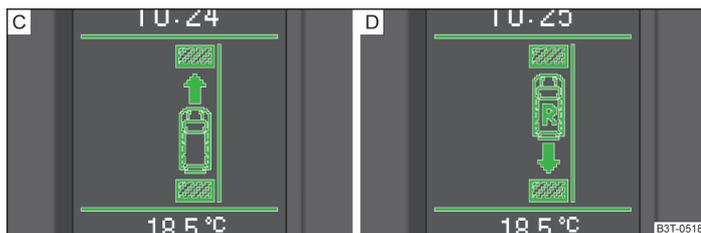

Fig. 104 Information display: Information to engage the forward gear **C** or the reverse gear **D**
- In the event that the parking procedure cannot be carried out in one go, the parking process is completed in further stages. When the arrow in the information display is flashing towards the front » Fig. 104 - **C**, engage the 1st gear or move the selector lever to position **D**.
- When the arrow in the information display is flashing towards the rear » Fig. 104 **D**, engage the reverse gear or move the selector lever to the position **R**.